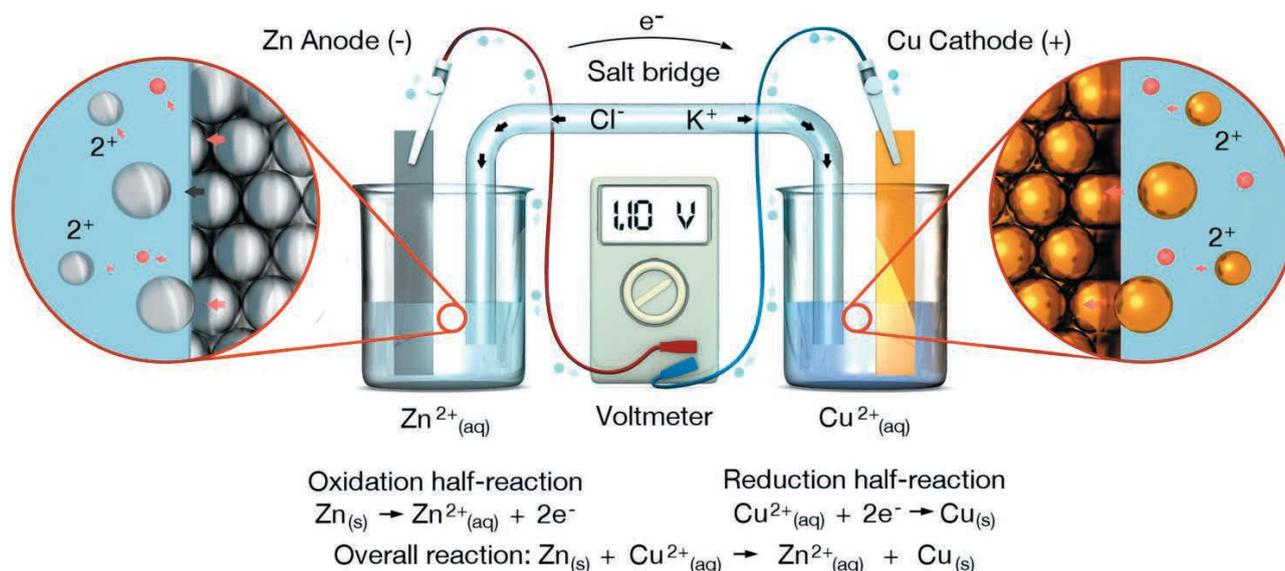

Figure 4.1.10: Simple zinc-copper galvanic cell
**Galvanic cells** (also known as **voltaic cells**) are electrochemical cells that rely on spontaneous redox reactions to generate a flow of current. Chemical energy is converted into electrical energy during the redox reaction when an electrical circuit is connected (Figure 4.1.10).